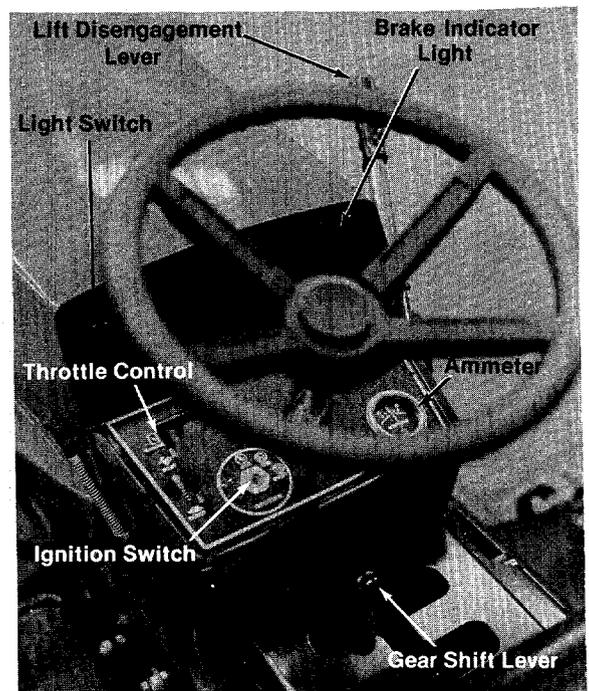

FIGURE 6. CONTROLS
- a. **Throttle Control.** The throttle control is used to regulate the engine speed and choke the engine. The engine should be operated from $\frac{3}{4}$ to full throttle when operating the cutting deck or snow thrower (optional). See figure 6.
range shift lever to give you the equivalent of six forward speeds. See figures 6, 7 and 8.
g. **Ammeter.** The ammeter registers the rate of battery charge or discharge. The ammeter should register on the plus side (+) when the engine is running in the fast position until the battery is completely charged. With a fully charged battery or with the engine idling the ammeter will not show a charge. See figure 6.
h. **Light Switch.** Push the light switch to turn on the lights. The lights will only operate when the engine is running. See figure 6.
Electric Start. See figure 6. Turn the key to the START position to start the engine. When the engine is running, let the key return to the ON
j. Lift and Disengagement Lever. It is used to raise the cutting deck. Pulling it all the way back and locking it disengages the blades. The engine will not start unless the lift and disengagement lever is in the disengaged position. See figure 6.
- Step 3. Place the lift and disengagement lever in the **DISENGAGED** position. See figure 6.
- Step 4. Set the throttle control in the **CHOKE** position. See figure 6.
To stop the blades, move the lift and disengagement lever (figure 6) into the DISENGAGED position. This raises the deck and disengages the blades.